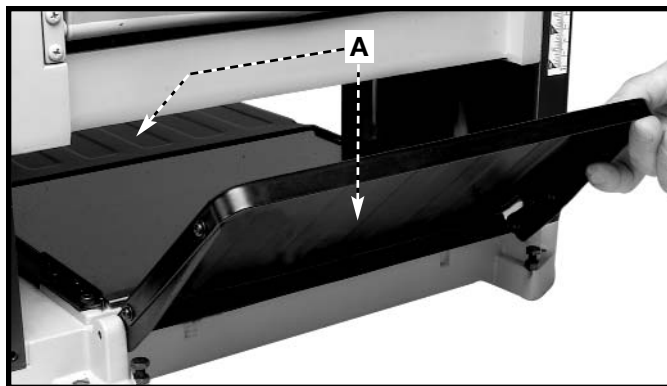

Fig. 6
The infeed and outfeed extension tables (A) Fig. 6 are shipped attached to the machine in the raised position. Lower the tables (A) on both sides of the planer (Fig. 6). The top surface of extension tables should be level with the planer table. To check and adjust, refer to the section “**LEVELING EXTENSION TABLES**” of this manual.